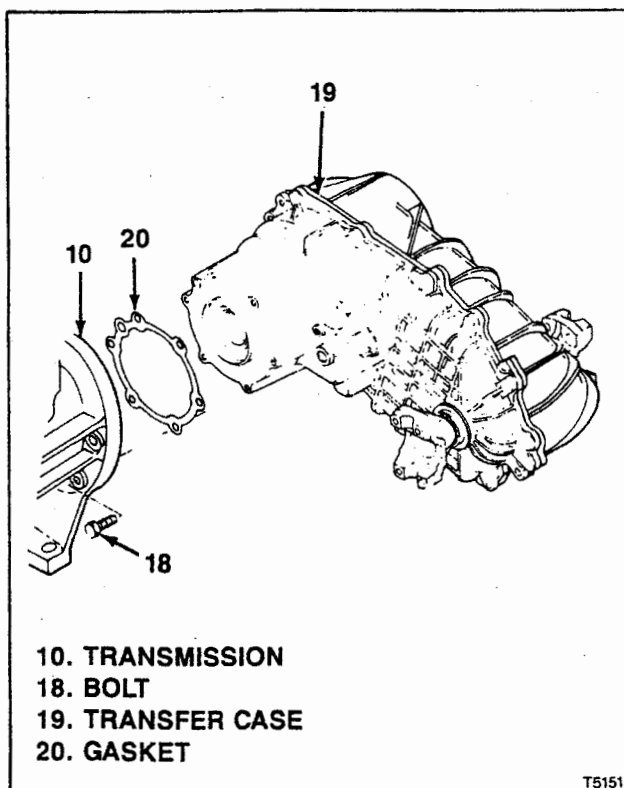

Figure 2-4. Transfer Case
Make sure transfer case is completely supported by jack or stand before removing bolts (18, figure 2-4) attaching transfer case to transmission. Do not allow transfer case to "hang" from transmission by splined shaft since this may damage input bearings.
a. Apply thin coat of high temperature grease to output shaft spline on transmission (10, figure 2-4).
b. Install new gasket (20) on transfer case (19) mounting face.
c. Raise transfer case (19) on jack or stand. Align transfer case with transmission (10).